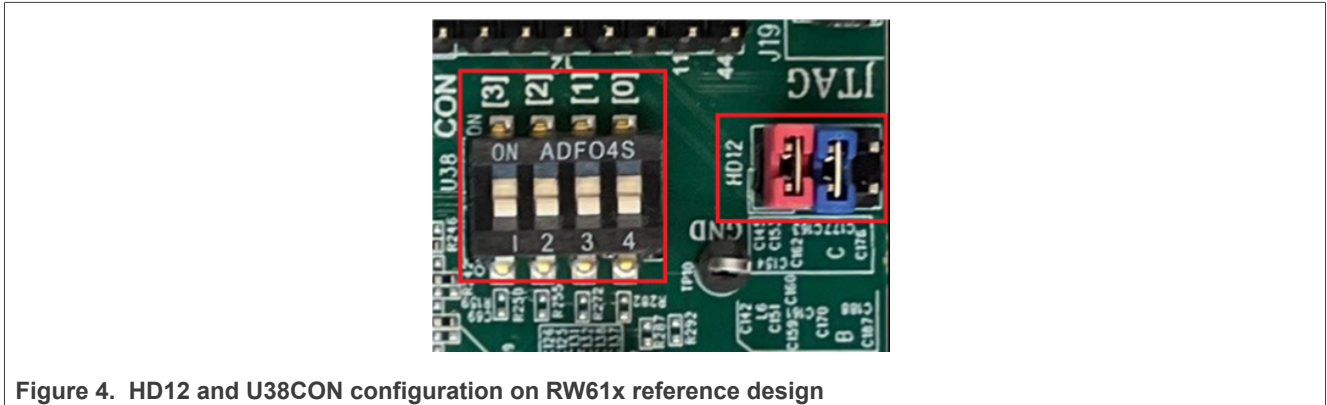

Figure 4. HD12 and U38CON configuration on RW61x reference design
Step 1 - Ensure the jumpers are installed on HD12 position 1-2 and 3-4 on NXP RW61x reference design board as shown in Figure 4.